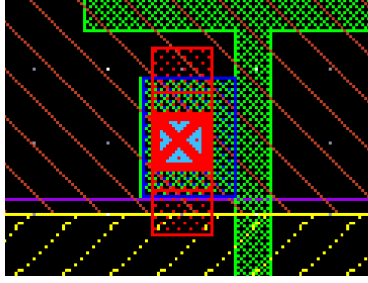

Figure 1: I/O M2 Pin Example
- \* An example of I/O pin made with Metal2 is shown in Figure 1